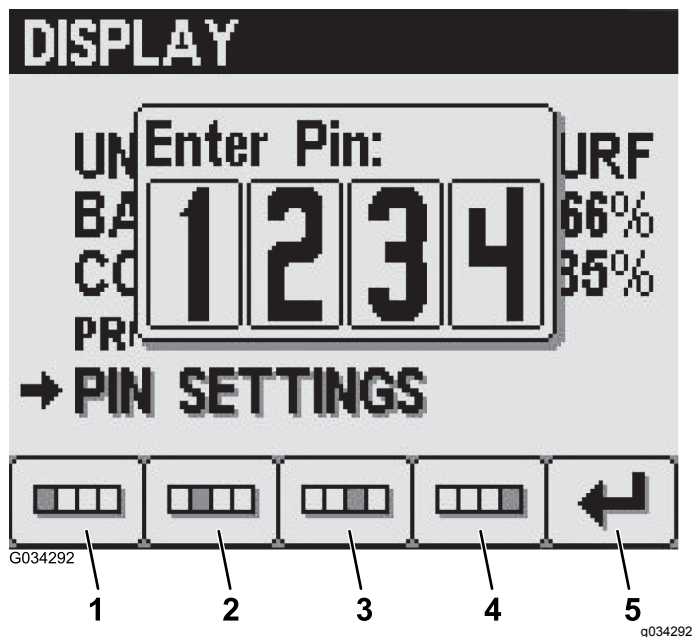

Figure 25
2. Enter your PIN using buttons 1 to 4 and press button 5 when you complete the PIN (Figure 25).
4. Enter your old PIN using buttons 1 to 4 and press button 5 when you complete the PIN (Figure 25).